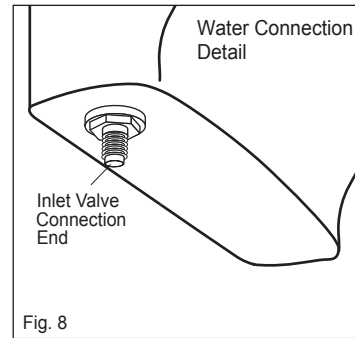

Fig. 8
9. Connect water supply to inlet valve connection end as detailed in Fig.8 and check operation.